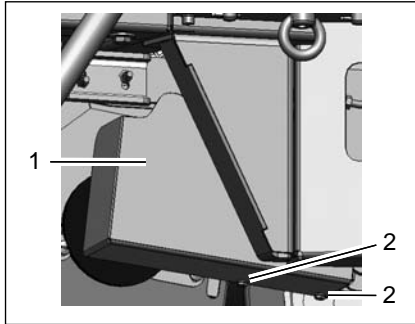

Fig. 42
The cover (Fig. 42/1) of the belt is fixed by two screws (Fig. 42/2).
1. Remove the screws (Fig. 42/2).
2. Remove the belt cover (Fig. 42/1).
5. Assemble the belt cover (Fig. 42/1) and fix with the screws (Fig. 42/2).